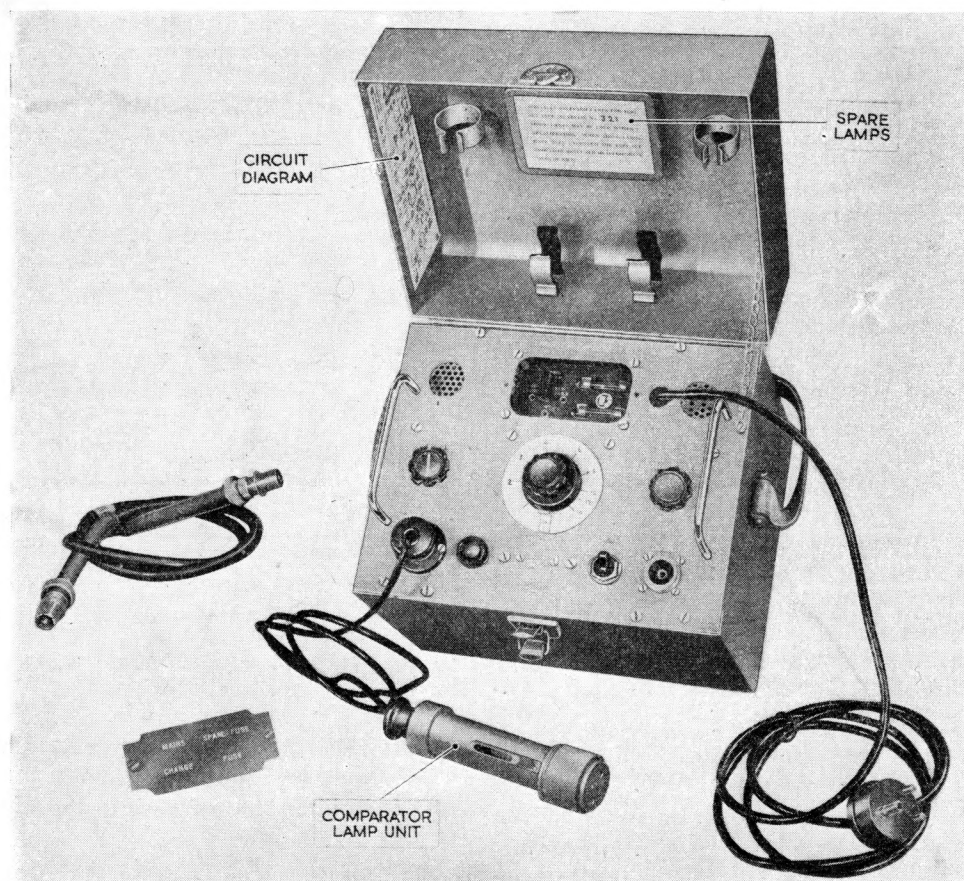

Fig. 16. Test set Type 102
50. The mains tapping link, access to which is gained by removing the small plate on the front panel of the test set, should be set so that socket C is linked to the 220/240 volts socket. Fig. 16 shows the position of the link and of the fuses, the upper of which is spare. When this check has been made proceed as follows :—
- (6) Connect the cable shown by the side of the instrument in fig. 16 between the
Test set Type 102 (fig. 16)